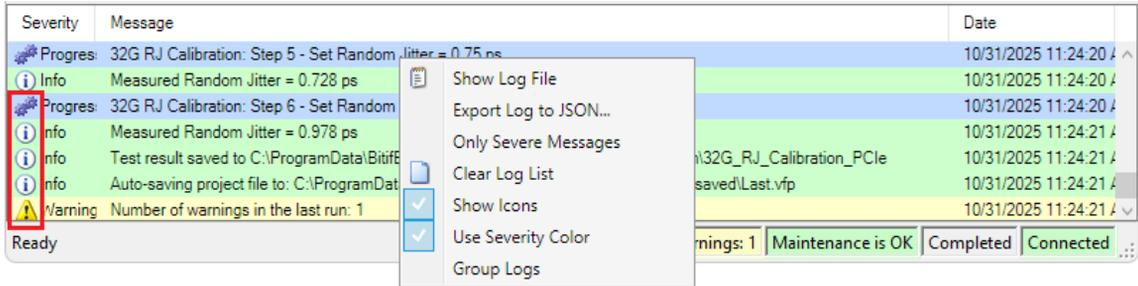

Figure 5-10 Customizing the log list
The **log list** pane at the bottom of the window shows calibration and test status messages (regular progress updates as well as warnings and error messages). Right-clicking the log list pane opens a context menu (Figure 5-10).
- If ‘Show Icons’ is ticked, icons appear at the left of the log list that depend on the function of each message (examples in the red frame in Figure 5-10).